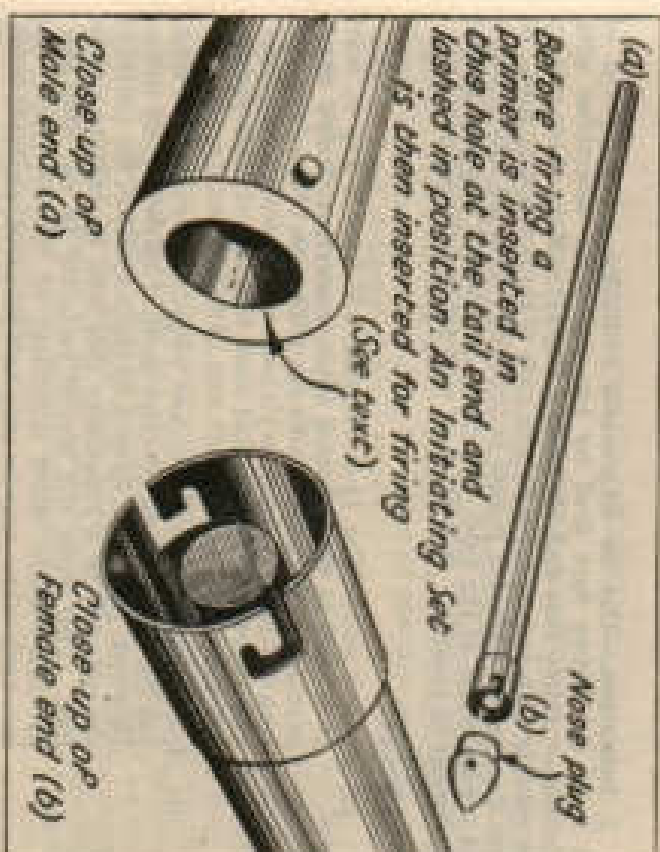

Fig 18. 2 in. Bangalore torpedo, Mk. 1
1. Description (see Figs 18 and 19)
The 2-in torpedo formerly issued weighed 25 lb per 5-ft length. Owing to its weight it has now been replaced by the 1½ in. The 2-in torpedo may still be met in training and is illustrated in Fig 18.